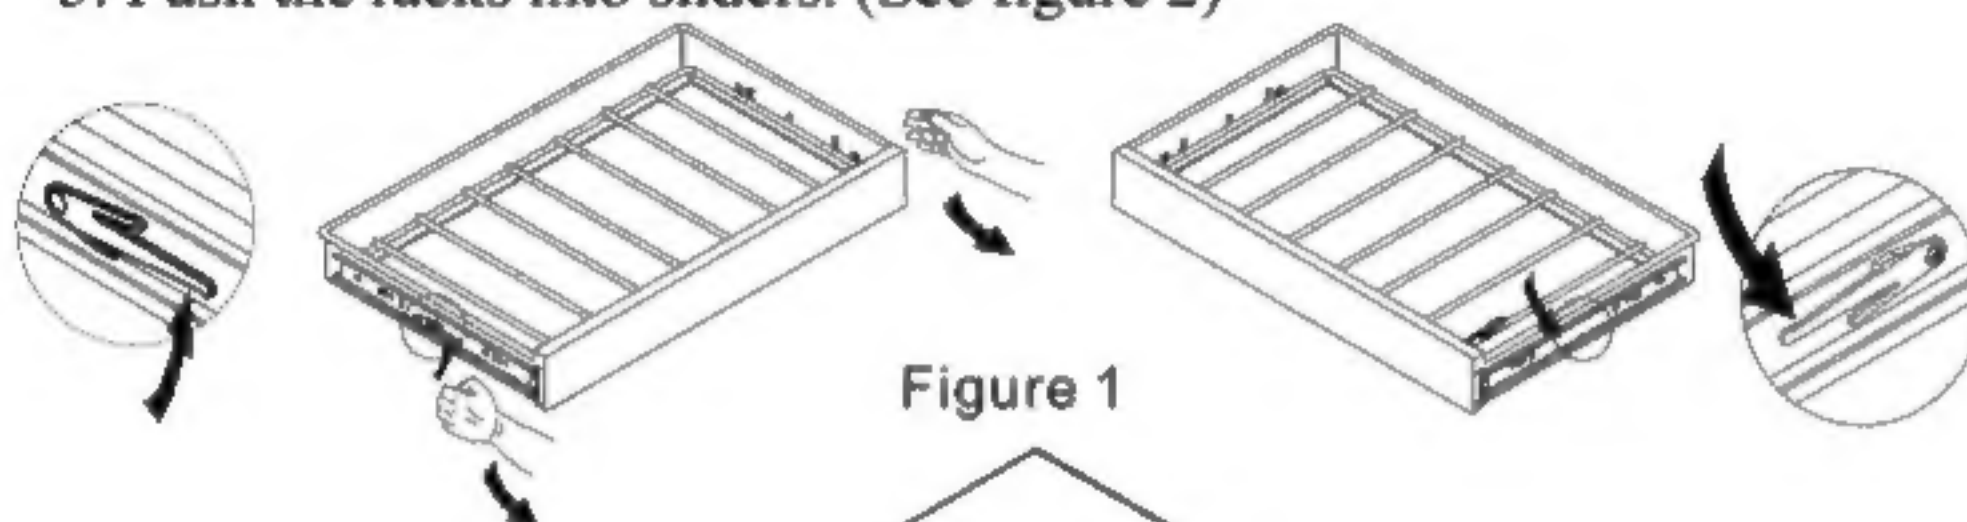

Figure 1
2. Pull the racks out flatly and press the button in each side. (See figure 1)